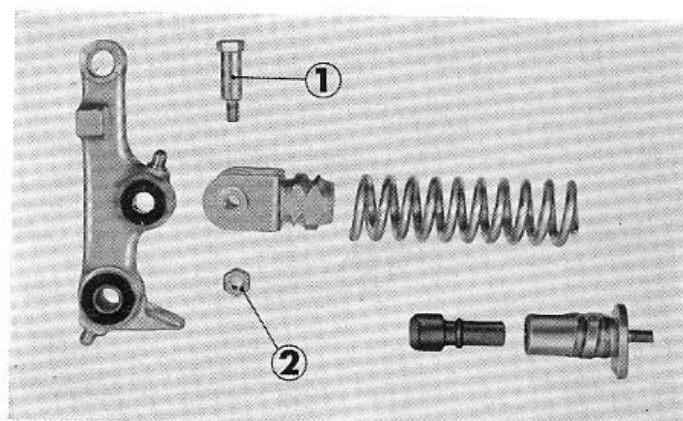

Fig. 4-10 ① Front cushion under bolt ② 6 mm nut
- Remove the 6mm nut and loosen the front cushion under bolt, and the front cushion; suspension can be disassembled. (Fig. 4-10)